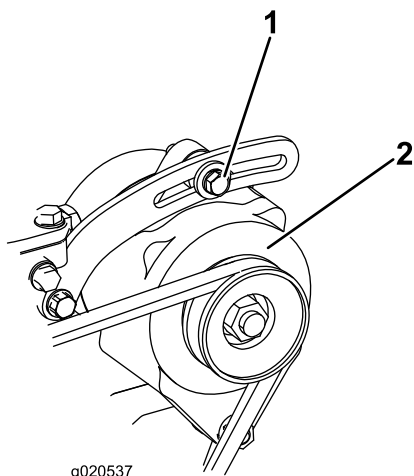

Figure 85
2. If the deflection is not 10 mm (3/8 inch), loosen the alternator mounting bolts (Figure 85). Increase or decrease the tension of the alternator belt and tighten the bolts. Check the deflection of the belt again to ensure that the tension is correct.